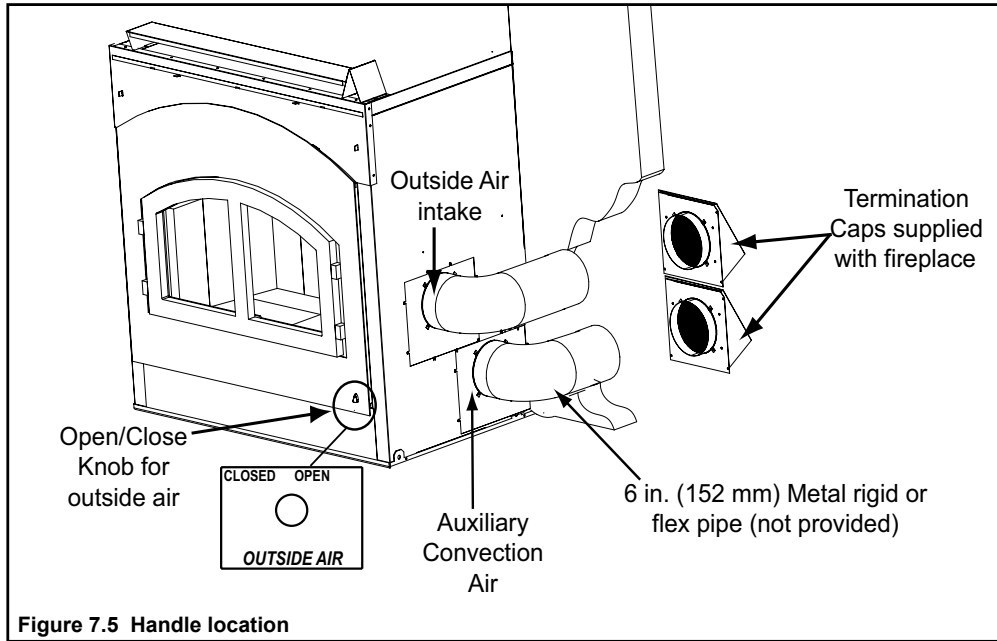

Figure 7.5 Handle location
The outside air kit is installed on the right hand side of the fireplace. See Figure 7.5 on page 41 for handle location/operation.
1. Cut a 6 in. (152 mm) hole in outside wall to accommodate air piping. See Figure 7.5 on page 41.